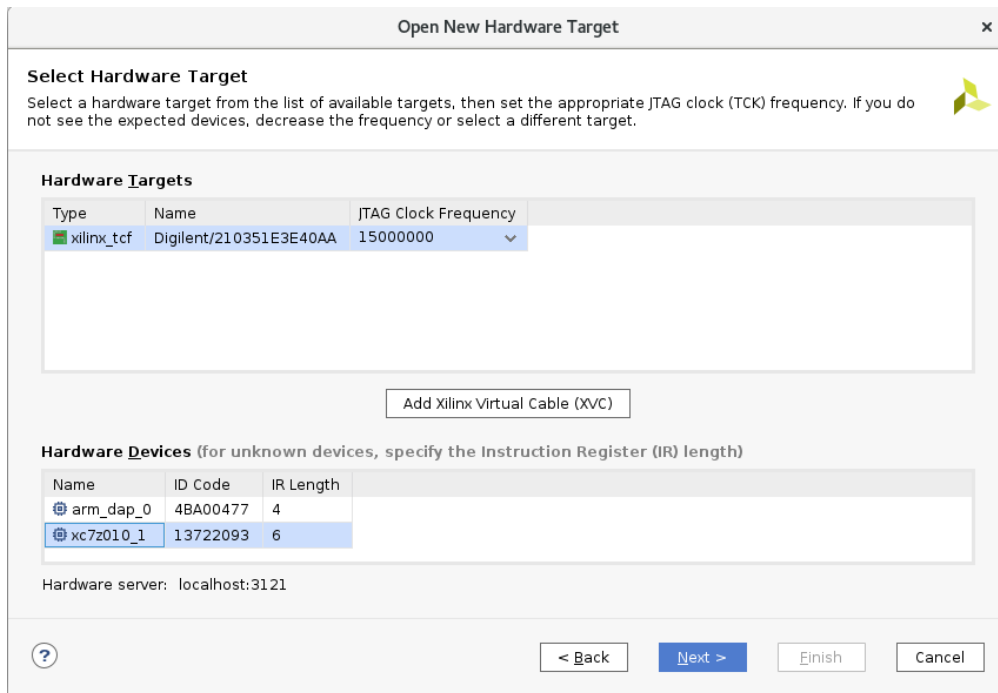

Figure 5: Hardware Target
- (b) Once the bitstream generation is completed, we need to download the bitstream to the FPGA on the ZYBO Z7-10 board. Turn on the power to the ZYBO Z7-10 board and make sure that the jumper JP5 is set in 'JTAG' mode. In the 'Flow Navigator' window, under the 'Program and Debug' panel click on 'Open Hardware Manager'. Click on 'Open Target' and in the pop up select 'Open New Target' which will open the 'Open New Hardware Target' window. Click 'Next'. select 'Local Server' in the 'Connect to' field. Click 'Next'. Select 'xilinx_tcf' in Hardware Targets and 'xc7z010_1' in Hardware Devices as in (Figure 5). The 'arm_dap.0' device is ARM Cortex Processor which is not needed for this lab. Click 'Next' and go through the summary and Click 'Finish'. Click on 'Program Device' under 'Hardware Manager' and select the FPGA 'xc7z010_1'. Click 'Program' to program the FPGA on the ZYBO Z7-10 board.